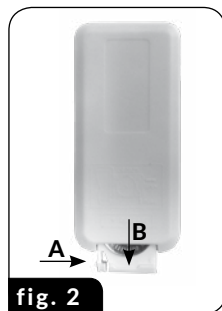

fig. 2
3. Regularly remove scale from the ultrasound transducer as necessary. Moisten a soft cloth with a mixture of vinegar and water and hold it for several minutes gently against the transducer (3) and the surfaces on which the scale has accumulated. After finishing scale removal, clean the surfaces with a cloth moisten with water. Be careful not to cause any mechanical damage to the transducer while cleaning it.
4. At least once a week, rinse the air filter (11) and ceramic filter (8) with running water, and dry thoroughly. Regular cleaning of the filters helps maintain high performance of the device. To access the air filter (11), remove the cover (12) in the bottom of the base (1). Refit the filters after cleaning. Exchange the ceramic filter once a year, and the air filter when it has been mechanically damaged.
5. The remote control is powered by a 3 V CR2025 battery. To access the battery, press the lock tab (arrow A in fig. 2) and pull out the battery case (arrow B in fig. 2). Observe correct polarity when installing the battery.